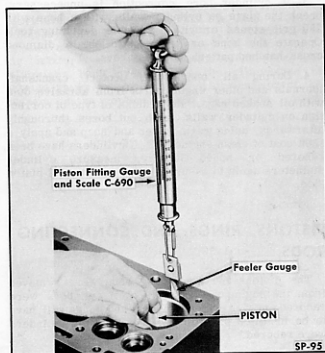

Fig. 12—Fitting Piston in Cylinder Bore
1. Check fit of each piston to cylinder bore, when block and pistons are clean and dry and at approximately 70° F, by using Piston Fitting Gauge and Scale C-690 as shown in Fig. 12. Use a .004 inch thickness gauge (1/2 inch wide) if old pistons are to be used. When fitting new pistons, use .0015 inch gauge. The piston is fitted upside down in the block to facilitate the operation, and the gauge must extend the full length of piston on the thrust side (side opposite slot in piston skirt). Scale should register 5-10 pounds pull to remove thickness gauge from between cylinder wall and piston. Excessive pull indicates need for a slightly smaller piston or additional honing of cylinder. Insufficient pull indicates need for fitting a larger piston.